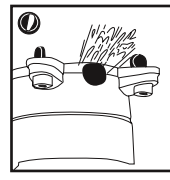

Fig. 6
6. After using, empty the container. Unscrew the drain cap. Drain liquids in a separate container or the gutter. Remember to set the container drain cap after emptying (Fig. 6)